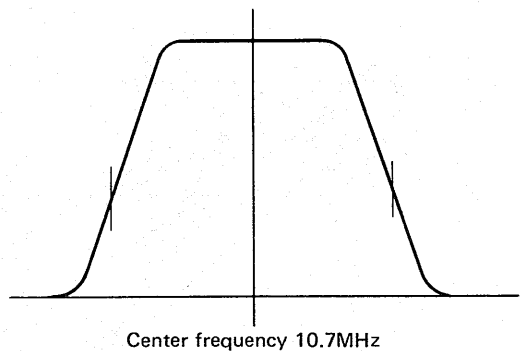

Fig. 3
- f) Align cores of T1, T2 and T3 for maximum gain and symmetry to obtain scope pattern as in Fig. 3.